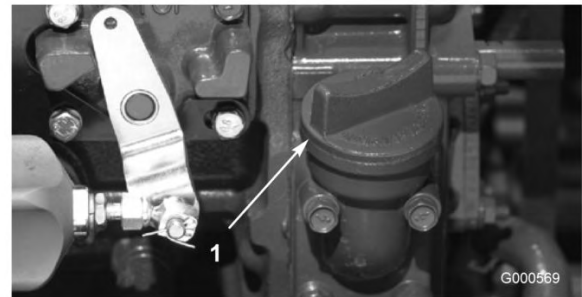

Figure 14
4. If the oil is below the FULL mark, remove the fill cap (Figure 14) and add oil until the level reaches the FULL mark. **Do not overfill.**